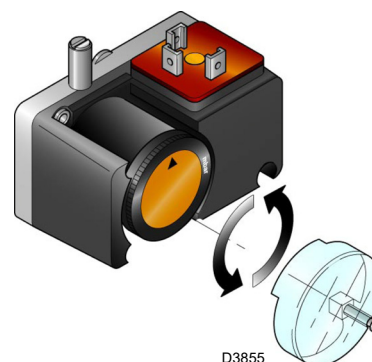

Fig. 33
- Adjust the minimum gas pressure switch (Fig. 33 at page 36) to the start of the scale.
Adjust the minimum gas pressure switch (Fig. 33) after having adjusted the burner, the gas valves and the gas train stabiliser. With the burner operating at maximum output: